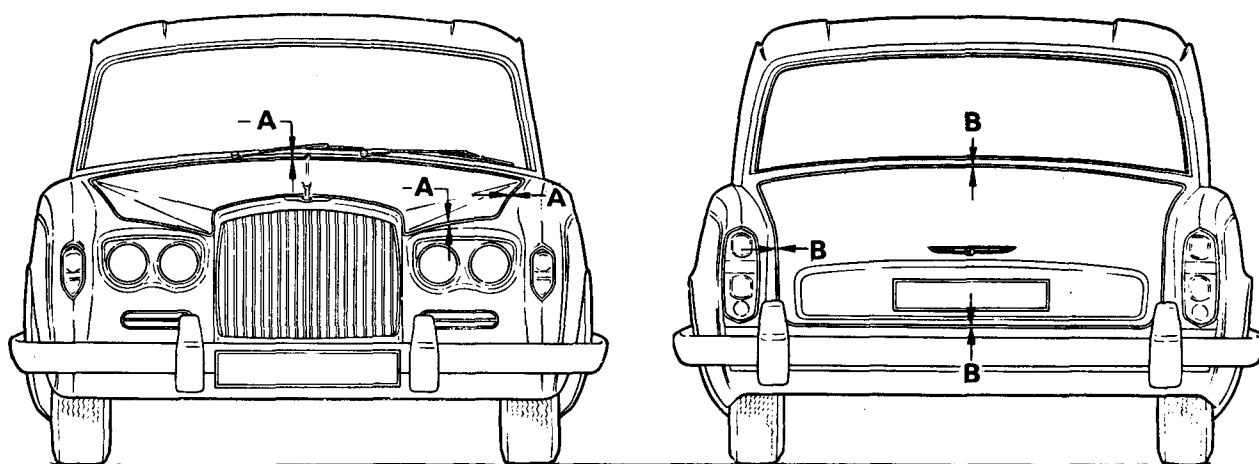

FIG. S49 BONNET AND LUGGAGE COMPARTMENT LID CLEARANCES
1. The setscrews securing the bonnet to the hinges should not be fully tightened until the bonnet clearances have been set in relation to the body as shown in Figure S49.
1. Do not fully tighten the setscrews securing the luggage compartment lid to the hinges until after the lid clearances have been set in relation to the body (*see Fig. S49*).